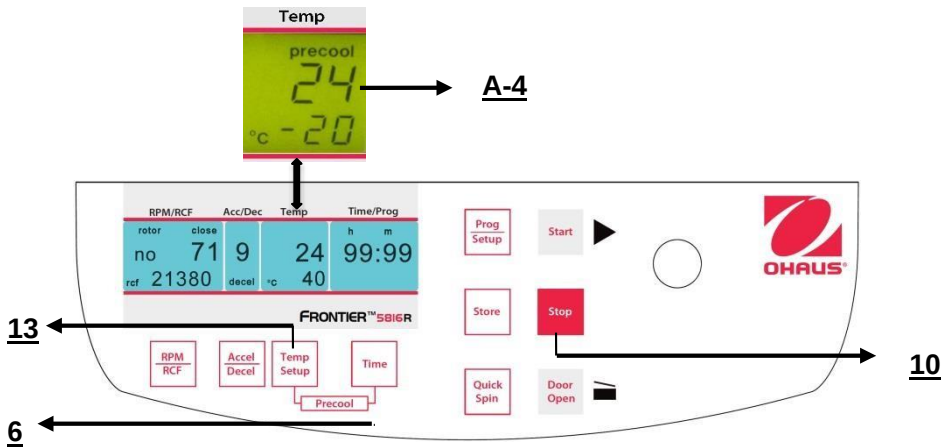
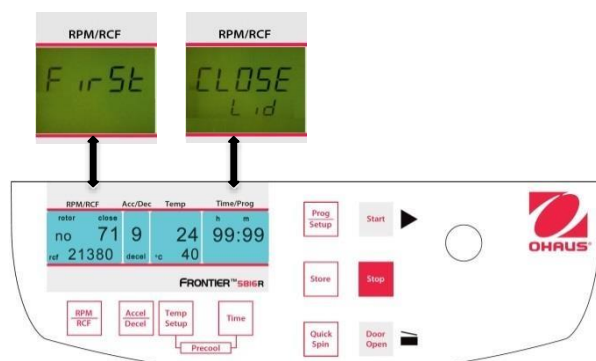

Figure. 23
Figure. 26
Close the lid of the centrifuge. Now proceed as described previously to set all important run parameters. If the lid isn't closed when storing the program, in the display **"RPM/RCF"** (A-1), the words **"First"** and **"CLOSE Lid"** (See figure 23) flashes alternately. If you want to start the run without storing the program, in the display **"RPM/RCF"** (A-1), the words **"First"** and **"PrESS StorE"** (See figure 26) flashes alternately.
For adaption of data press the key **"Store"** (12) (refer to figures 26 and 27) for approx. 1 second. If the program is stored correctly, the word **"StoreE"** appears in the display **"RPM/RCF"** (A-1). As a result, the word **"programm"** (M10) disappears.
You can start the centrifuge either with the **"Start"** key (9) (refer to figure 26) or the **"Quick Spin"** key (8).